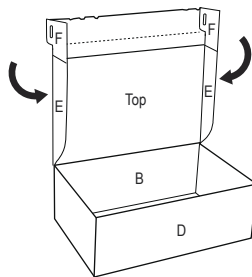

Figure 6
6. Fold down slotted flaps (F) at right angle as shown. (See Figure 6)